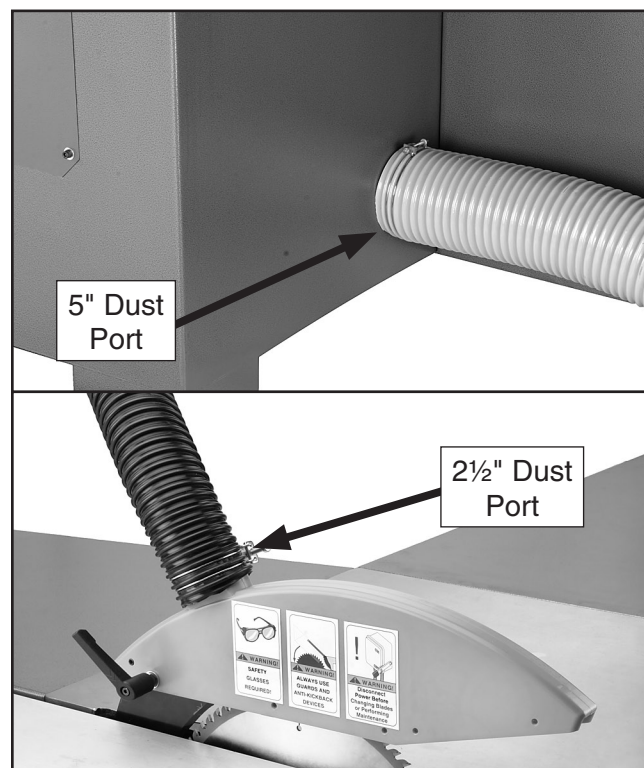

Figure 47. Dust port locations.
1. Run a 5" hose from the dust collector to the dust port located under the saw table (**Figure 47**) and secure it with hose clamps.
2. Install the blade guard/dust hood on the ripping knife with the adjustable handle and flat washer as shown in **Figure 47**.
3. Run a 2½" hose from the dust collector to the blade guard port (**Figure 47**) and secure it with hose clamps.